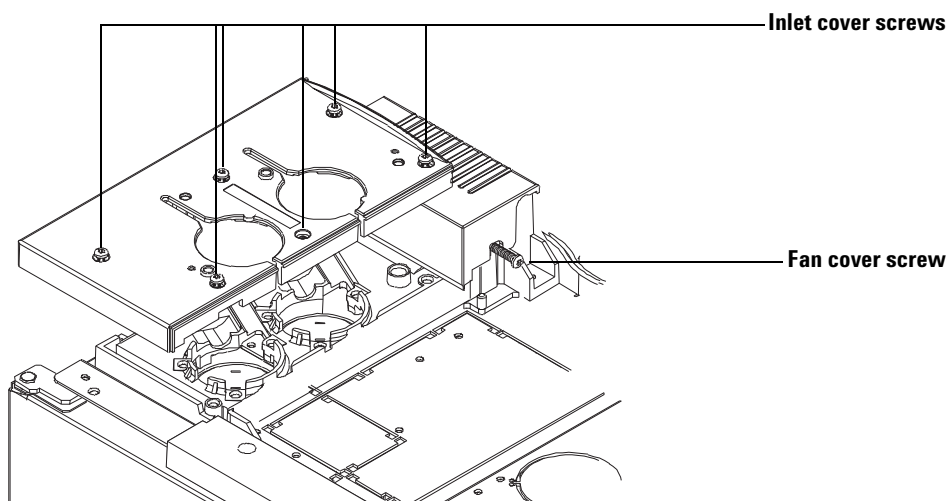

Figure 2 Removing the injection port top cover and inlet fan cover (6890 Series GC)
- 1** Loosen the Torx T-20 screw on the right side of the fan cover. See Figure 2 on page 42 for screw location.
- 1 Fully loosen the six Torx T-20 screws on the top of the cover (Figure 2).